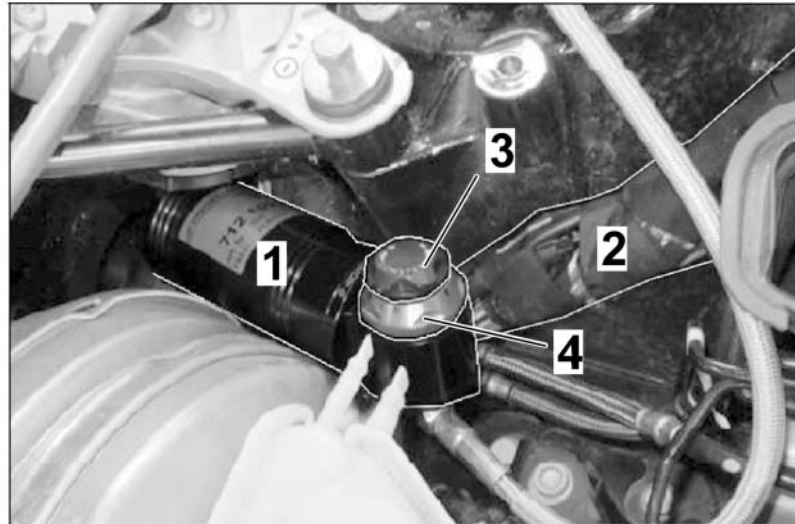

Figure 14 (LHD vehicle)
12. – Attach the pressure cell ⇒ *Figure 14 (LHD vehicle)*-1- of the damper on the driver's side with two cable ties on the wiring harness shown ⇒ *Figure 14 (LHD vehicle)*-2-. Fastening points for right-hand drive vehicles (RL) may vary: Mount the pressure cell onto the existing wiring harness as with left-hand drive vehicles (LL, ⇒ *Figure 14 (LHD vehicle)*).